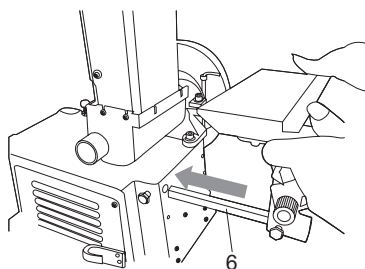

Fig. 18
- > Insert the worktable rod (6) into the hole. (Fig 18 & 19)